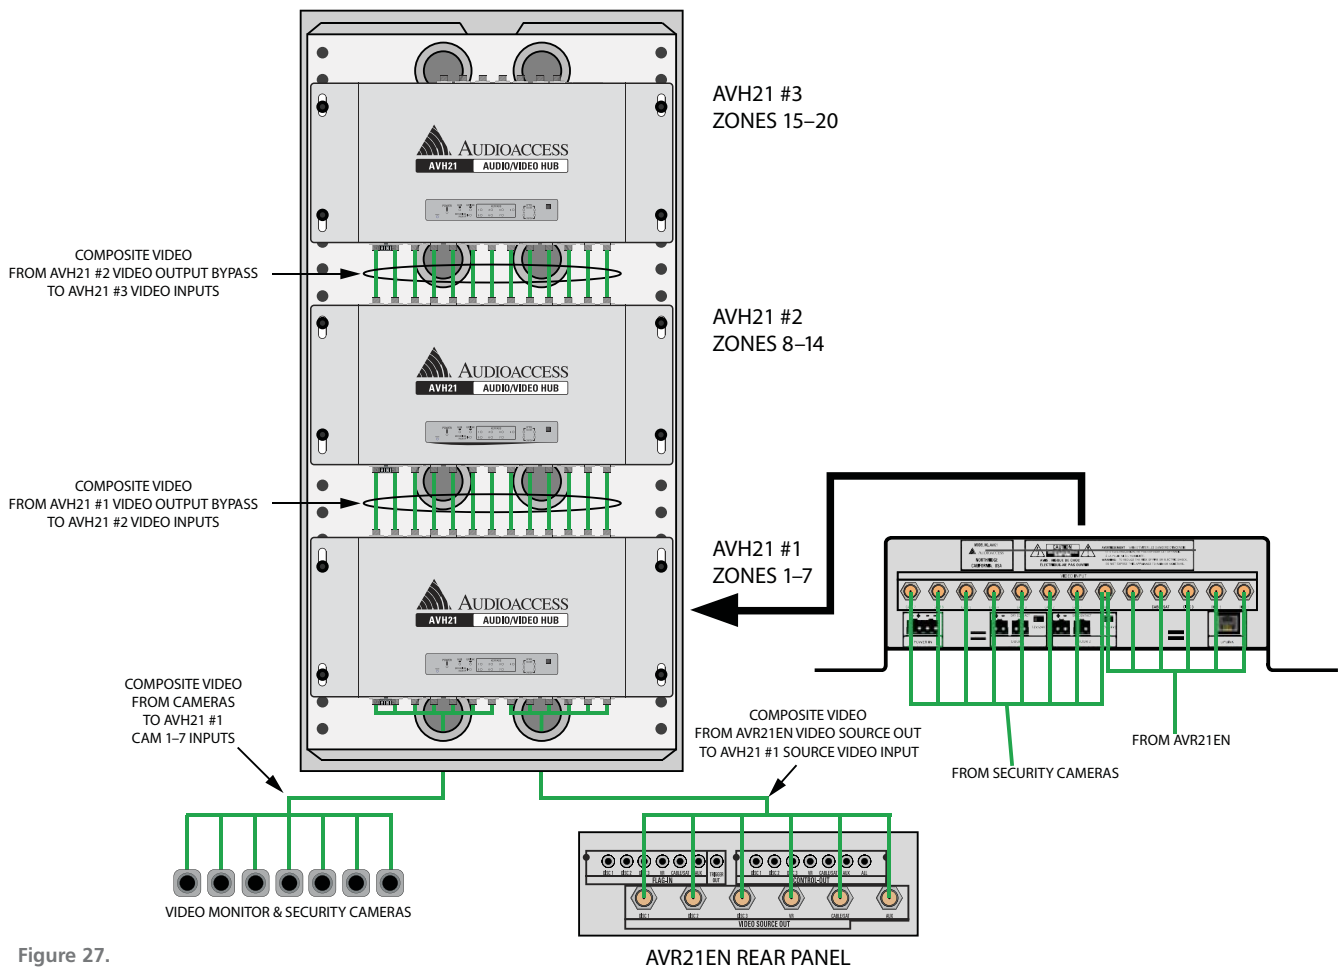

Figure 27.
1. Using RG6 quad shield coaxial cable terminated with male F connectors, connect each of the **Video Source Out Terminals 6** on the AVR21EN rear panel to the appropriate **Source Video Input 8** on the AVH21, as shown in **Figure 27**.
2. In larger systems, complete Step 1 above by connecting the **Video Source Outs 6** on the AVR21EN to the appropriate **Source Video Input 8** on AVH21 #1, as shown in **Figure 27**.
- a) Using short lengths of RG6 coax, connect each of the **Source Video Output Bypass Terminals 1** on AVH21 #1 to the appropriate **Source Video Input 8** on AVH21 #2, as shown in **Figure 27**.
- b) If using three hubs, connect each of the **Source Video Output Bypass Terminals 1** on AVH21 #2 to the appropriate **Source Video Input 8** on AVH21 #3, as shown in **Figure 27**.
2. In larger systems, complete Step 1 above by connecting zone video monitor or security camera composite video output to the appropriate **Camera Video Input 7** on AVH21 #1, as shown in **Figure 27**. Terminate the camera ends of the coax as appropriate.
- a) Using short lengths of RG6 coax, connect each of the **Camera Video Output Bypass Terminals 3** on AVH21 #1 to the appropriate **Camera Video Input 7** on AVH21 #2, as shown in **Figure 27**.
- b) If using three Hubs, connect each of the **Camera Video Output Bypass Terminals 3** on AVH21 #2 to the appropriate **Camera Video Inputs 7** on AVH21 #3, as shown in **Figure 27**.